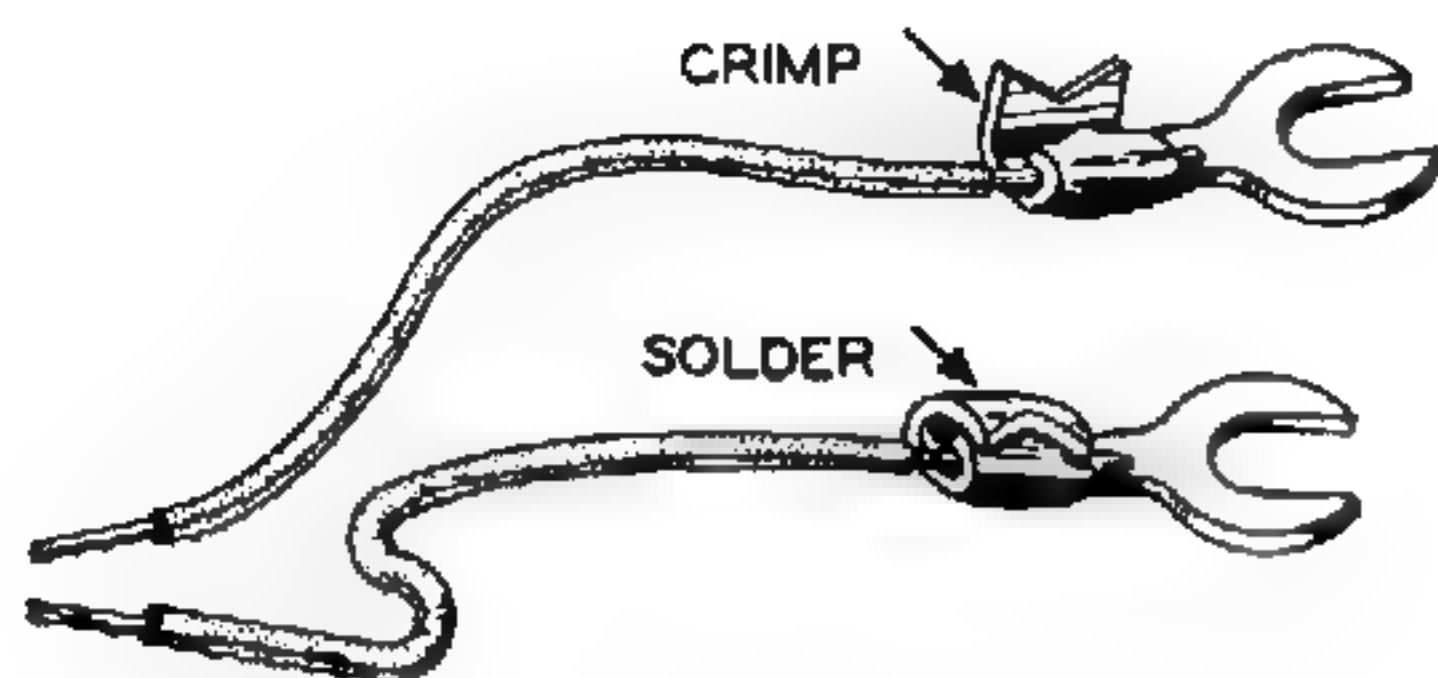

Figure 6
- ( ) Refer to Figure 6 and at the 3" stripped end of the cable install spade lugs on the red and white wires. Connect both black wires and the shield pigtail to the remaining spade lug, in a similar manner.